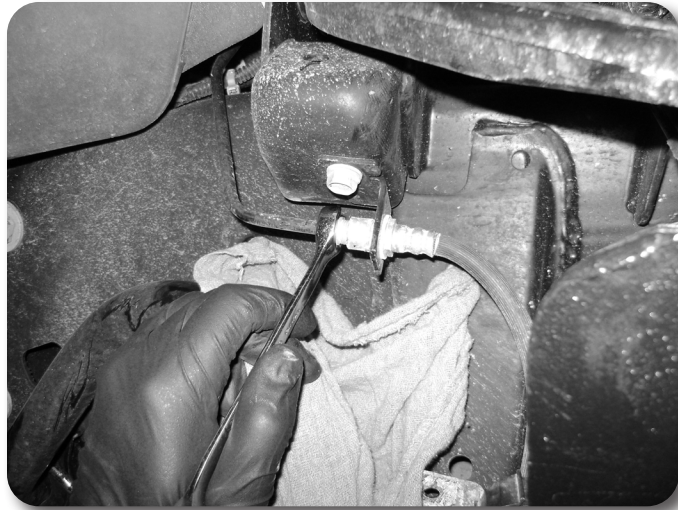
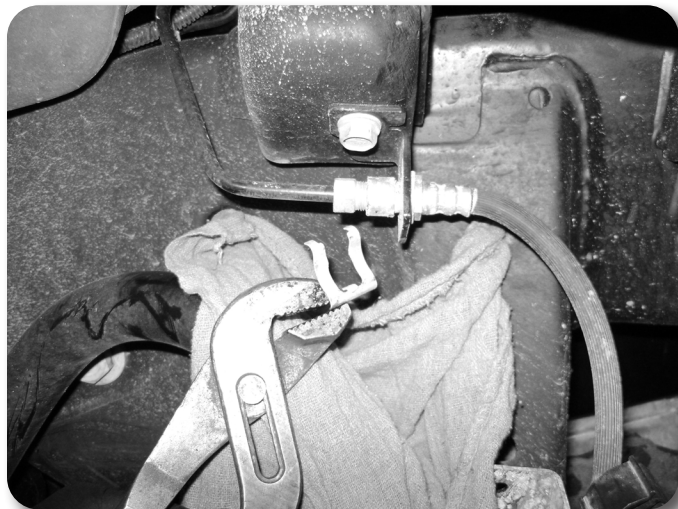

Figure 41A
Figure 41B
60. Locate the factory brake line junction at the frame where the hard line and rubber line meet. **Figure 41A** Using a 13mm line wrench disconnect the hard line from the rubber line. Remove the retaining clip and pull the line from the frame bracket. **Figure 41B** Place a bucket, etc under the hard line to catch any brake fluid drips.